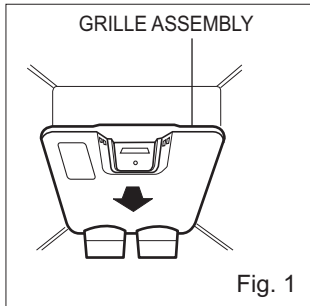

Fig. 1
1. Pull out the grille assembly. (Figure 1)